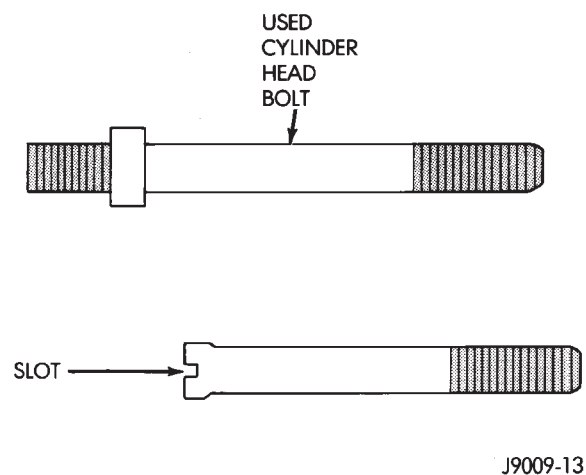

Fig. 4 Fabricate Alignment Dowels
(1) Fabricate two engine cylinder head alignment dowels from used head bolts (Fig. 4). Use the longest head bolt. Cut the head of the bolt off below the hex head. Then cut a slot in the top of the dowel to allow easier removal with a screwdriver.